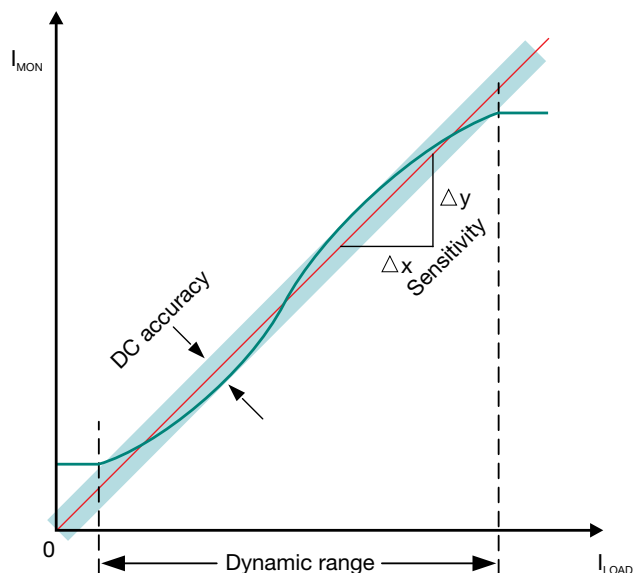

Figure 8. Current-monitoring performance specifications.
- Dynamic range refers to the range of load currents that the current-monitor circuit can sense and report accurately (see **Figure 8**). Signals outside the supported dynamic range would have a significantly higher error in measurement, or may not be sensed at all. The dynamic range is usually limited at the upper end by the headroom of the current-monitor amplifier circuit and on the lower end by noise and offset errors. There's usually a trade-off between accuracy at the lower or upper ends of the range. Using a higher gain or larger sense resistor in the circuit improves the performance near zero scale by increasing the signal relative to the offset and noise, but leads to clipping and/or saturation of the output near full scale. Conversely, using a lower gain or smaller sense resistor can ensure better linearity and accuracy near full scale, but leads to poor measurement accuracy near zero scale because the measurement is dominated by offset and noise. Some current-monitoring devices use techniques such as chopper-stabilized amplifiers, auto-zero amplifiers and multipoint trim to minimize offset errors and improve performance at the lower end of the range.